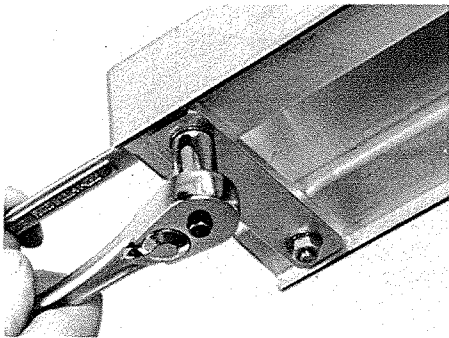

Fig. 1
1. Mount the stops to the track ends using the supplied hardware (Fig. 1).